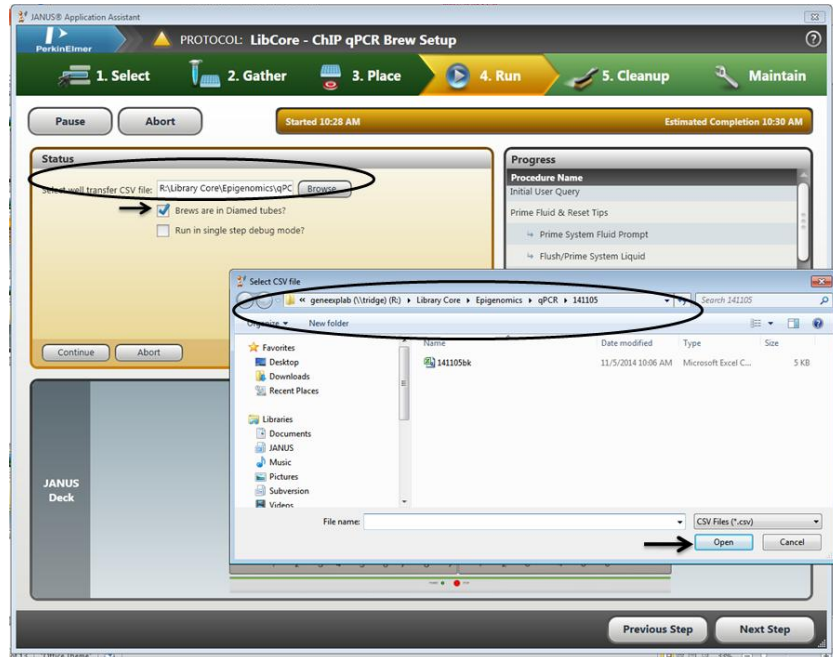

Figure 9: Selecting the CSV file
- 3.21. Click "Browse..." and select the CSV file that was created in Step 3.8. Click 'Open' once the CSV file has been selected (Figure 9).